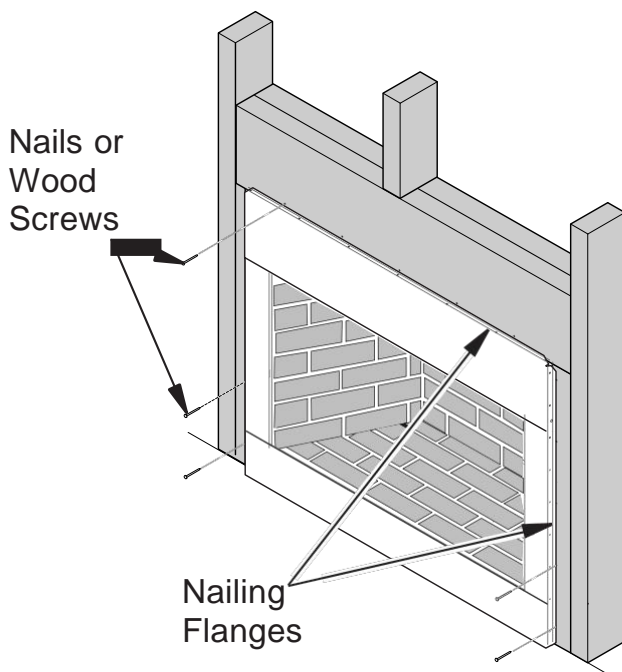

Figure 10 - Attaching Firebox to Wall Studs
5. Attach firebox to wall studs using nails or wood screws through holes in nailing flange (see Figure 10, page 11).